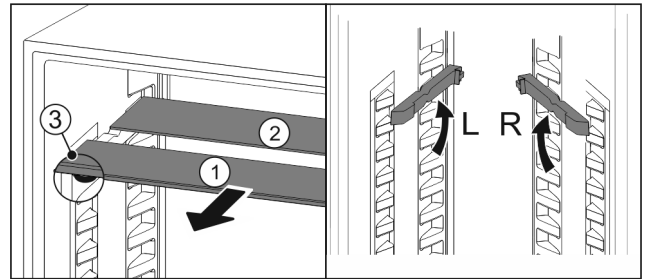

Fig. 120
- Pull the glass panels out Fig. 120 (1) from the front, one at a time.
- The glass panel Fig. 120 (1) with the trim strip is at the front.
- The stops Fig. 120 (3) point downward.